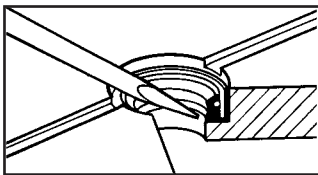

Figure 27
Step 1: Insert screwdriver blade under shaft seal and pry the seal from the housing being careful not to damage the walls or face of the trap (**Figure 27**).